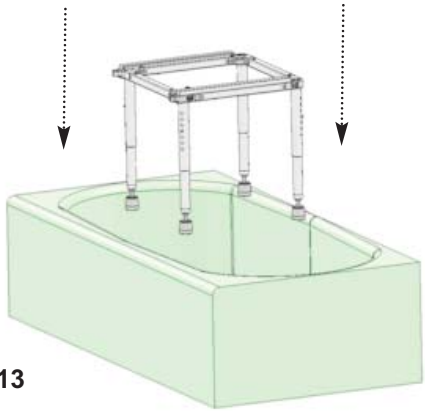

Figure 13
**B** Place the assembled tub section of the slider into the desired position of the bath tub (Refer to Figure 13).